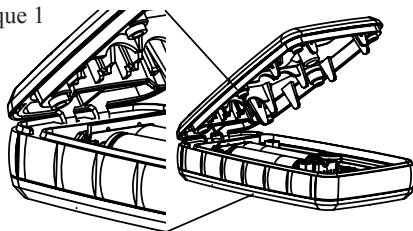

Figure 11. Battery cover and the screws holding the cover
2. Carefully remove the cover by lifting up the front end of the cover (see fig. 11).
6. Close the cover by first inserting the backside of the cover in the transmitter, and then pressing the front down (see fig. 11).